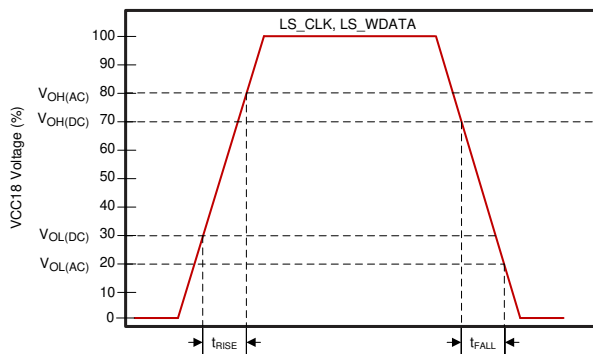
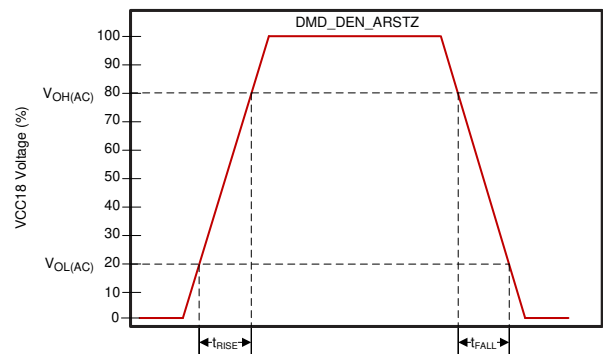

图 6-3. LS\_CLK and LS\_WDATA Slew Rate
图 6-4. DMD\_DEN\_ARSTZ Slew Rate
- See Figure 6-3 for DMD\_LS\_CLK, and DMD\_LS\_WDATA rise and fall times. See Figure 6-4 for DMD\_DEN\_ARSTZ rise and fall times.